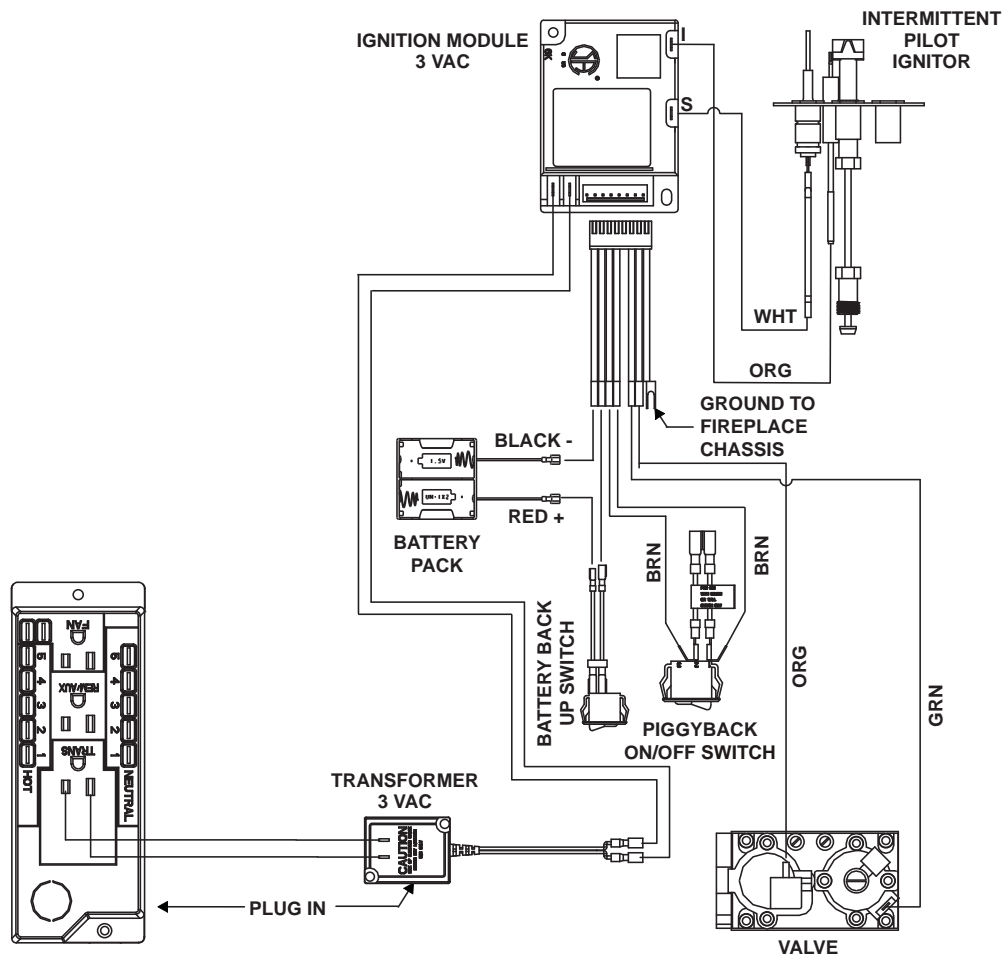

Figure 12.1 Intellifire Pilot Ignition (IPI) Wiring Diagram
- Refer to Figure 12.1, Intellifire Pilot Ignition (IPI) Wiring Diagram.